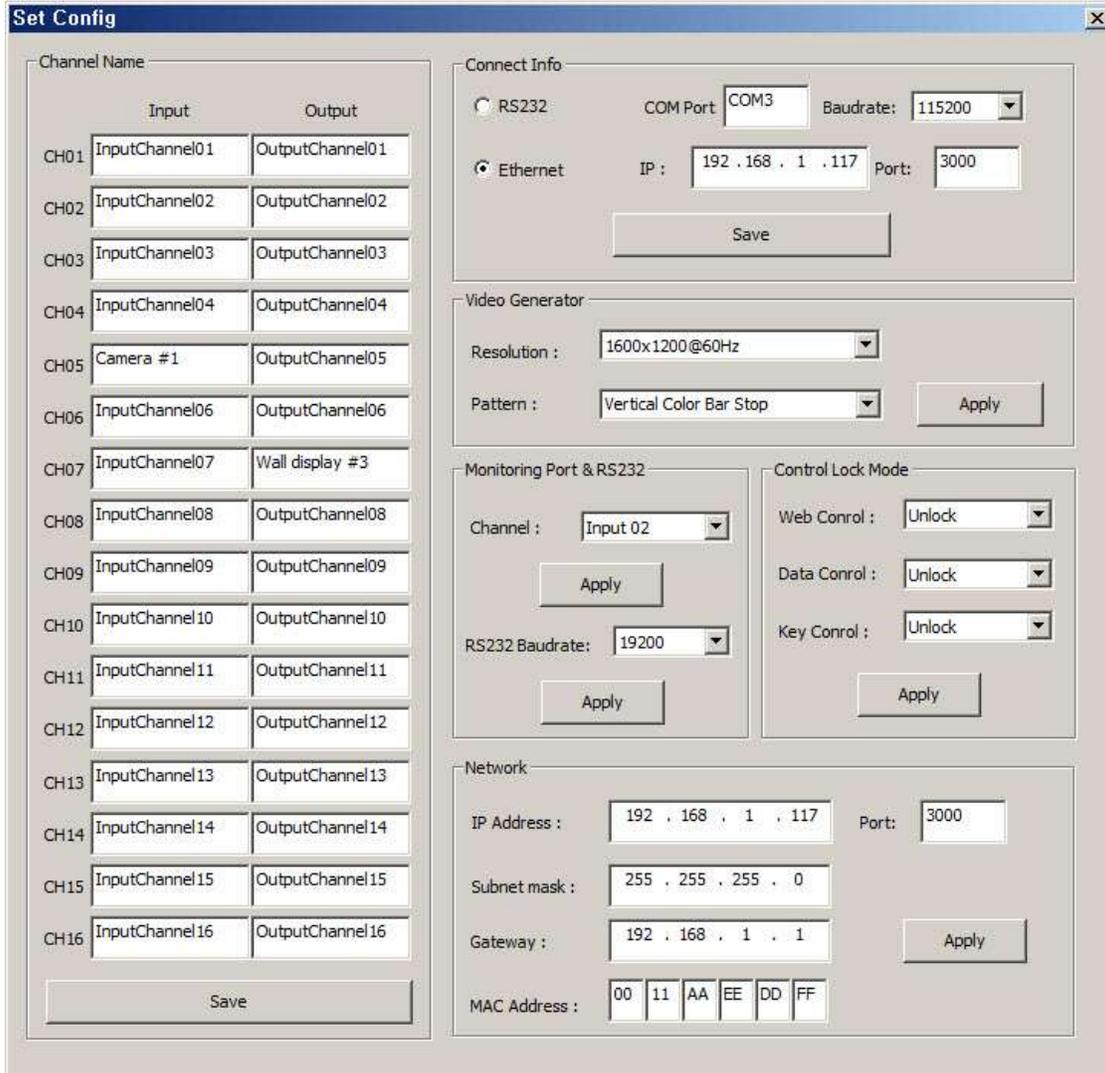

Fig 4-2 Set Config window of OMM-1000 PC program
- On Fig 4.2, The name of **Camera #1** was assigned for Input CH05 and **Wall display #3** for output CH07.